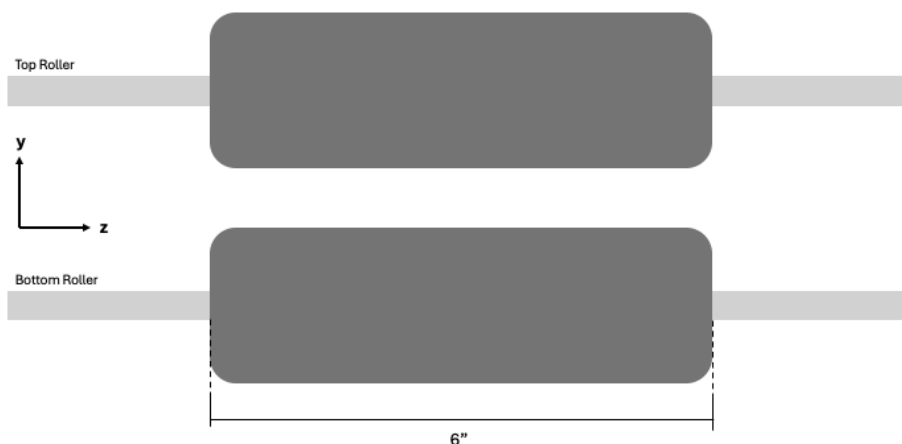

Figure 1 – Straight 6" roller configuration
- 5.1. Ensure both the top and bottom rollers are configured with the straight 6" roller, as seen in Figure 1.